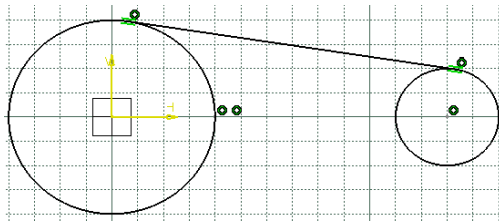

Figure 3-53 The sketch after drawing the first tangent line
- Move the cursor to the first quadrant of the second circle and specify the endpoint of the line on its circumference; a tangent line is drawn, as shown in Figure 3-53.